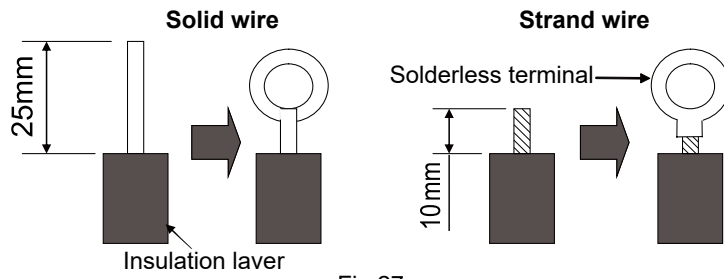

Fig.27
1. For solid core wiring (Fig.27)
2. For strand wiring (Fig.27)